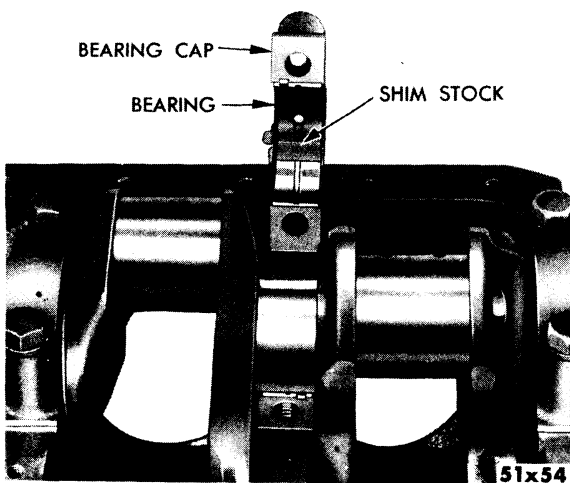

Fig. 25—Checking Main Bearing Clearance With Shim Stock
- (1) Install the bearing shell in the cap. Start at the center main bearing; place a piece of oiled .001 inch feeler stock (1/2 inch wide and 1 inch long) between bearing and crankshaft journal, as shown in Figure 25. Install the bolts and lockwashers. Tighten bearing cap bolts to 85 foot-pounds torque.